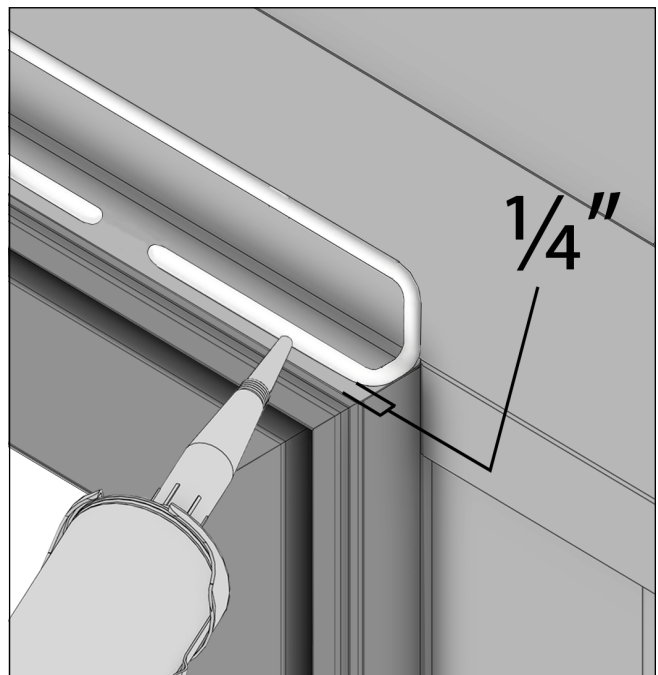
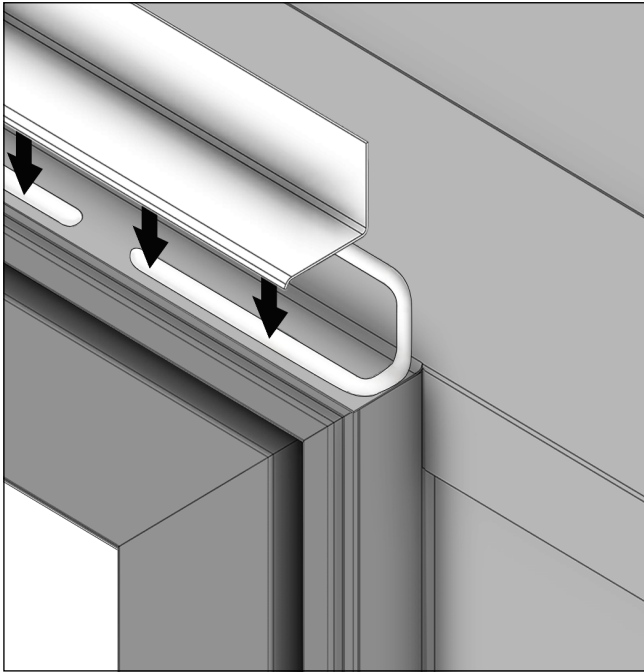

Figure 91
Figure 92
23. Install Rigid Head Jamb flashing. See Figure 91 and Figure 92